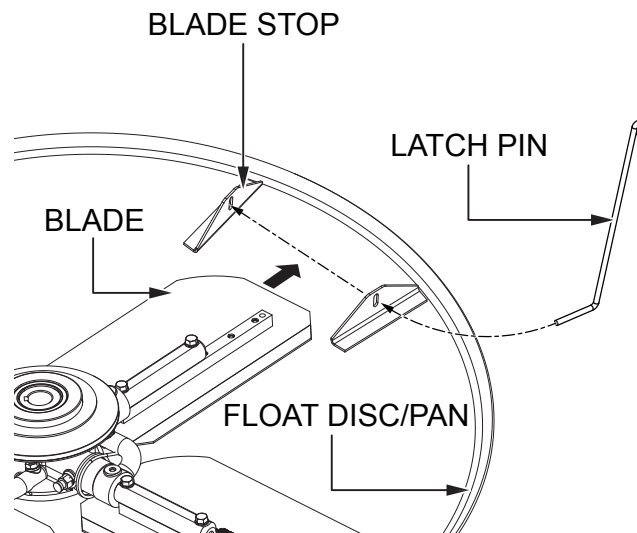

**Figure 16. Float Pan Installation (Z-Clips)**
1. Lift the trowel just enough to slide the float pan under the blades. Lower the trowel onto the pan with the blades adjacent to the Z-clips (Figure 16).
3. Secure the blade tie-downs to the far side of the Z-clip brackets with the tie-down knobs (Figure 16).
4. Make sure the blade edges are secured under the Z-clips, and the tie-downs are secured completely over the edges of the blade bar (Figure 16).